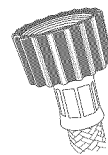

Fig.5 Faucet end of hose (straight end)
- 1 Install hoses with the straight end (with filters) fitted to the faucets (refer to Fig.5).